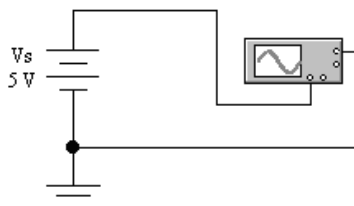

Figure 4.11
1. Construct the circuit of Figure 4.11, with  $V_S$  of the power supply set to 5 V. Set the **VERTICAL** scale for Channel 1 to 2 (Volts/Div).